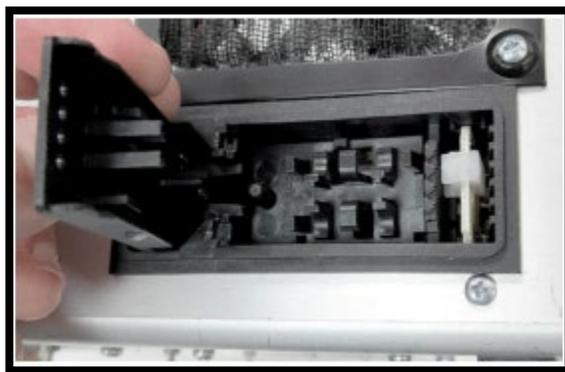

Figure 21. Opened Fuse Door
- 4) The door can now be opened from the right, exposing the fuse holder and voltage selector card (Figure 21).